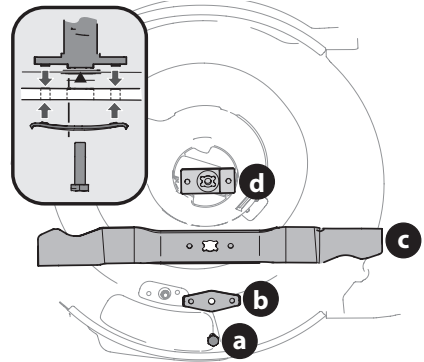

Figure 16
4. Remove bolt (a) and blade bell support (b) which hold the blade and the blade adapter to the engine crankshaft (Figure 16).
5. Remove blade (c) and blade adapter (d) from the crankshaft (Figure 16).
7. Lubricate the engine crankshaft and the inner surface of the blade adapter with light oil (Figure 16 inset).